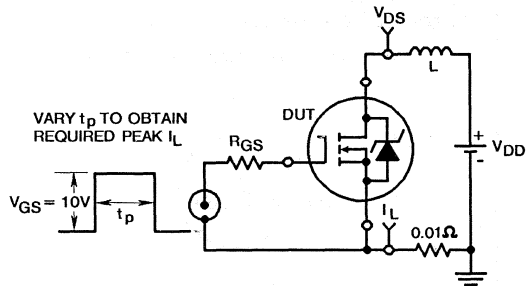

FIGURE 14. UNCLAMPED ENERGY TEST CIRCUIT
- $V_{DD} = 25\text{V}$, starting $T_J = +25^\circ\text{C}$, $L = 160\mu\text{H}$, $R_{GS} = 50\Omega$, $I_{PEAK} = 31\text{A}$. See Figures 14 and 15.
4. V_{DD} = 25V, Start T_J = +25°C, L = 160μH, R_{GS} = 50Ω, I_{PEAK} = 31A. (See Figures 14 & 15)
(See Figure 14, $L = 100\mu\text{H}$)